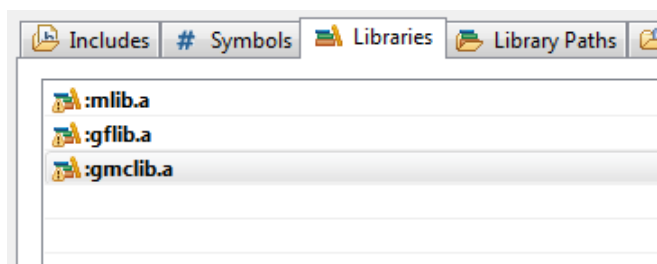

Figure 1-13. Libraries
11. After adding the library paths, add the library files. Click the Libraries tab. See Figure 1-13.
18. Click OK, and you will see the libraries added in the list. See Figure 1-13.